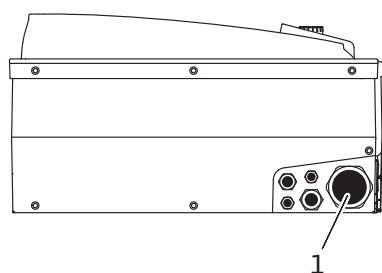

Fig. 23: M40 threaded cable connection
- The power cable is to be fed through the M40 threaded cable connection (Fig. 23, Item 1).